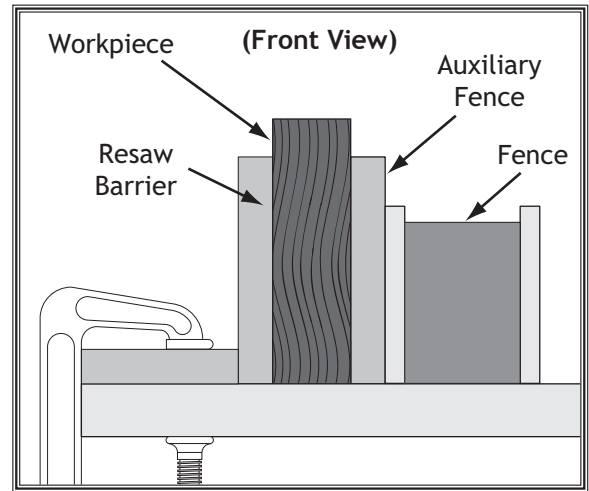

Figure 70. Ideal resaw workpiece setup.
- Place the workpiece against the auxiliary fence and slide the resaw barrier against the workpiece, as shown in **Figure 70**. Now clamp the resaw barrier to the top of the table saw at both ends.